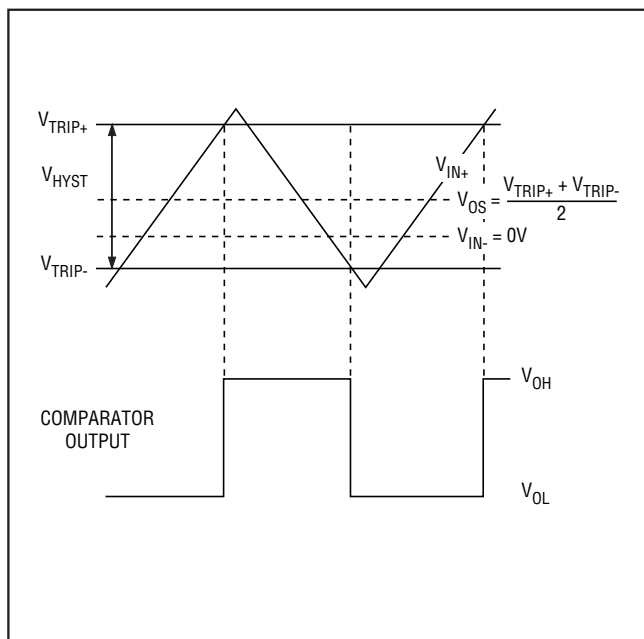

Figure 1. Input and Output Waveform, Noninverting Input Varied
- Note 2:** The input-referred trip points are the extremities of the differential input voltage required to make the comparator output change state. The difference between the upper and lower trip points is equal to the width of the input-referred hysteresis zone (see Figure 1).
- Note 3:** V_{OS} is defined as the center of the input-referred hysteresis zone (see Figure 1).
The hysteresis in a comparator creates two trip points: one for the rising input voltage and one for the falling input voltage (Figure 1). The difference between the trip points is the hysteresis. When the comparator's input voltages are equal, the hysteresis effectively causes one comparator input voltage to move quickly past the other, thus taking the input out of the region where
Figure 1 illustrates the case where V_{IN-} is fixed and V_{IN+} is varied. If the inputs were reversed, the figure would look the same, except the output would be inverted.